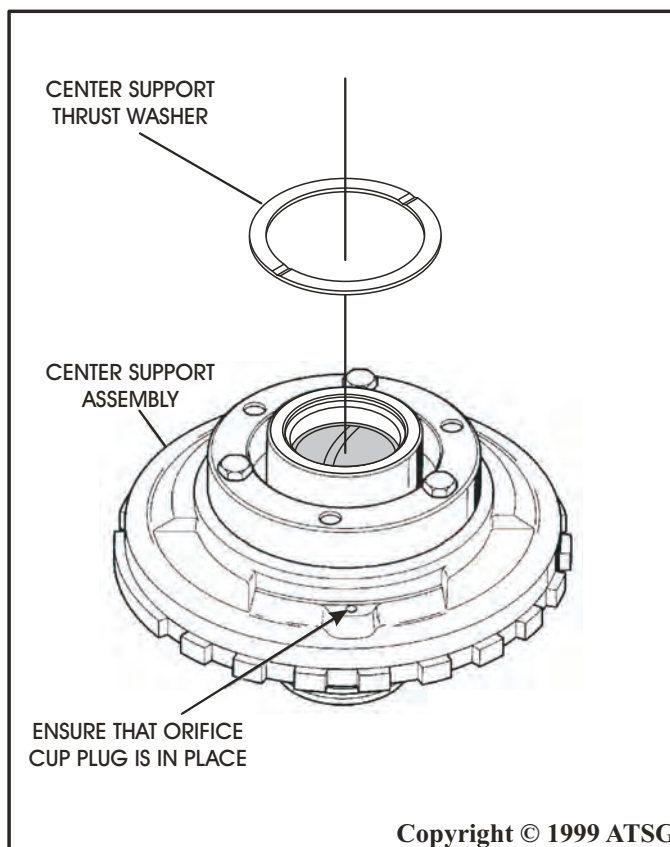

Figure 72
44. Turn the completed center support assembly over and install the brass thrust washer, shown in Figure 72, and retain with TransJel®.
45. Ensure that the orificed cup plug is in place, as shown in Figure 72.